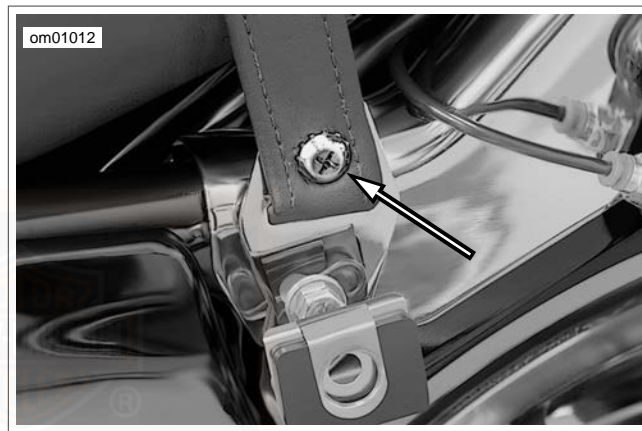

Figure 78. Seat Strap Bracket Screw (FLHT/C/U)
1. See Figure 78. Open left saddlebag cover and remove fastener from seat strap bracket.
5. See Figure 78. Install end of seat strap in slot of seat strap bracket. Install seat strap bracket fastener. Tighten to 48-72 **in-lbs** (5.4-8.1 Nm).
2. See Figure 78. Open left saddlebag cover and remove seat strap bracket fastener.
7. See Figure 78. Install end of seat strap in slot of seat strap bracket. Install seat strap bracket fastener. Tighten to 48-72 **in-lbs** (5.4-8.1 Nm).